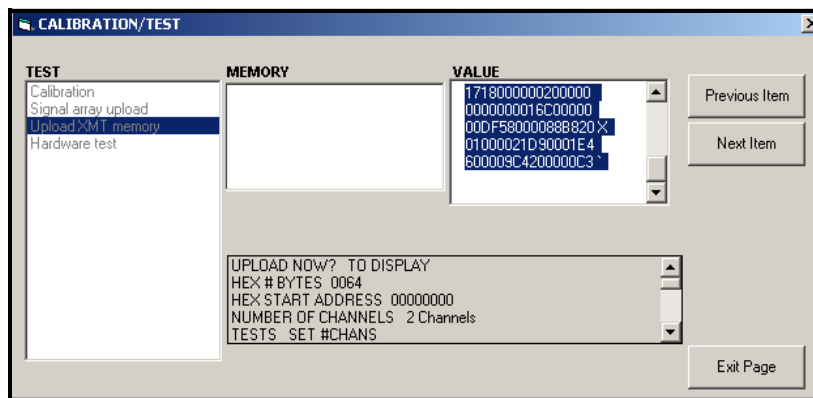

Figure 15: XMT868i Memory Data Displayed on PanaView
- If you double-click on *To Display*, the right pane of the window appears similar to Figure 15, and the data is available for immediate evaluation. Click [Exit Page] to close the window and return to the *Calibration/Test* menu.